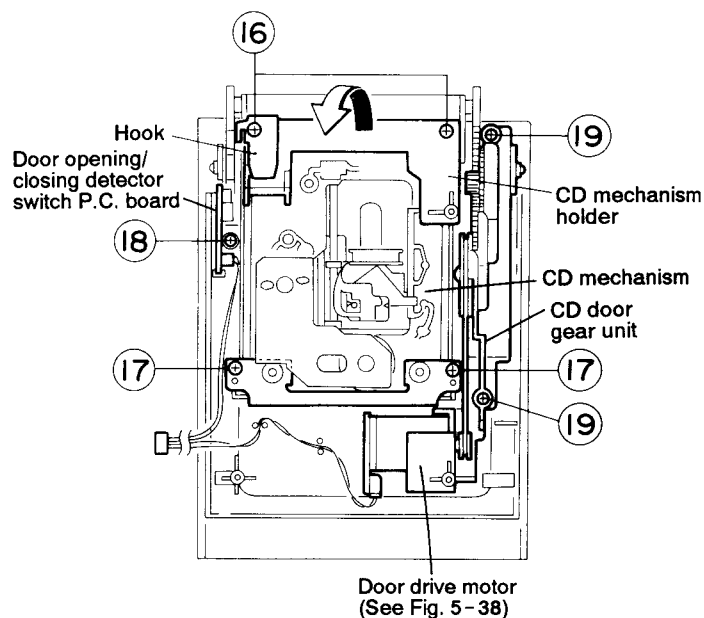

Fig. 5-37
■ Removing the CD mechanism (See Fig. 5-37)
1. Remove the two screws ⑯ retaining the CD mechanism.
3. Remove the two screws ⑰ retaining the CD mechanism.
■ Removing the door opening/closing detector switch P.C. board (See Fig. 5-37)
■ Removing the CD door gear unit (See Fig. 5-37)